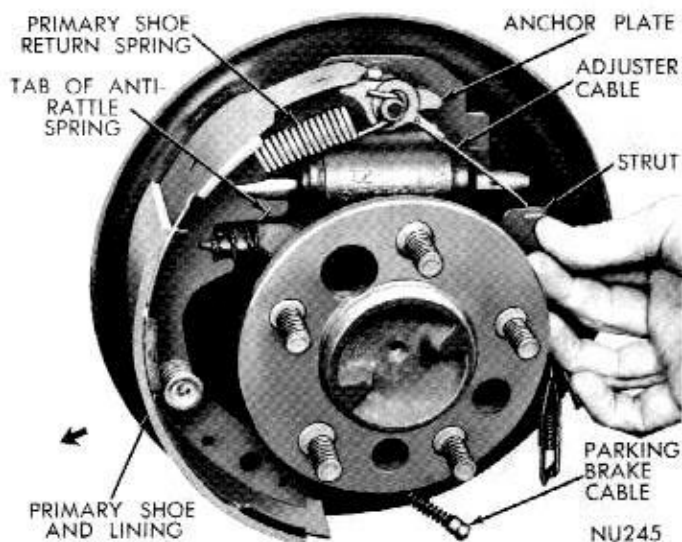

Fig. 8—Removing or Installing Parking Brake Strut and Spring (Left Rear)
(6) Spread anchor ends of primary and secondary shoes and remove parking brake lever strut and anti-rattle spring (Fig. 8).
(7) Disengage parking brake cable from parking brake lever.
(8) Disengage primary and secondary shoes from push rods and remove from support. Remove adjust-
(1) Install parking brake lever on inner side of secondary shoe web after lubricating pivot with support plate lubricant. Secure with wave washer and horseshoe clip.
(2) Engage parking brake lever with cable, then slide secondary shoe against support plate, and at the same time engage shoe web with push rod and against anchor.
(3) Slide parking brake strut behind hub and into slot in parking brake lever. Slide anti-rattle spring over free end of strut. (Fig. 8). On ten inch brakes, be sure spring tab is pointing rearward and up on outside of shoe web (Left Brake), and pointing frontward and down behind shoe web (Right Brake) (Fig. 8). On eleven inch brakes, be sure spring tab is pointing forward and down and outside of shoe web (Left Brake), and pointing frontward and down behind shoe web (Right Brake) (Fig. 3).